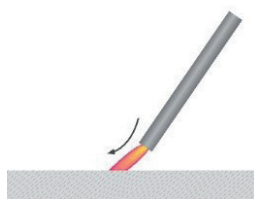

Fig. 38: The arc is similar to the inclination.
- / The arc is always deflected in the direction that the electrode is tilted (Figure 38). The inclination of the electrode causes the lines of force to be so condensed that the arc is pushed in the direction of the electrode tilt.